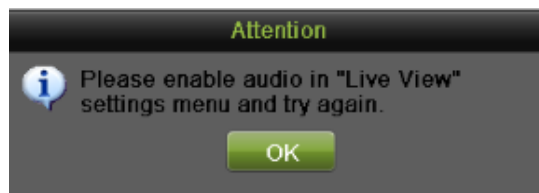

Figure 54 Enable Audio Attention Message
2. Enable audio by clicking the Enable Audio icon and disable audio by clicking the Disable Audio icon. An error message similar to the one shown in **Figure 54** will pop-up if the Enable Audio option is not selected in the Live View menu for the specified channel.